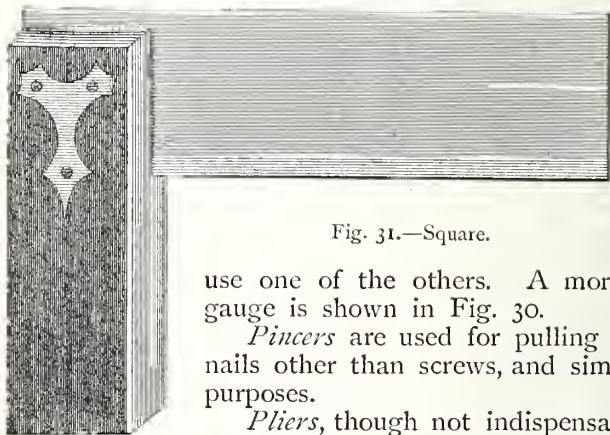

Fig. 31.—Square.
*Square*.—This consists of a thin piece of steel set at right angles either with a thicker piece of metal, or more commonly with a wooden block as shown in Fig. 31. Frequent use of the square is necessary both in setting out and testing the accuracy of work. A true square,